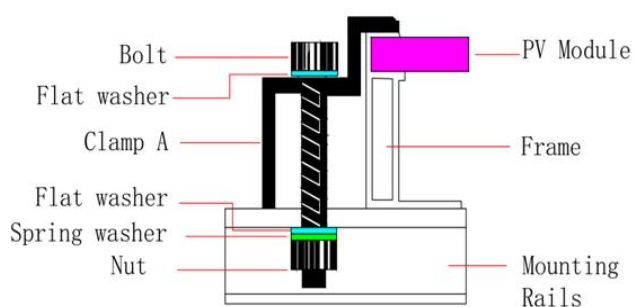
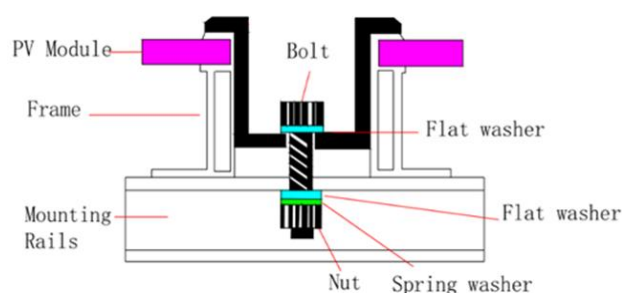

figure 5
figure 6
- Clamp material should be anodized aluminum alloy or stainless steel. The mounting details are shown in the following *figure5* and *figure6*.